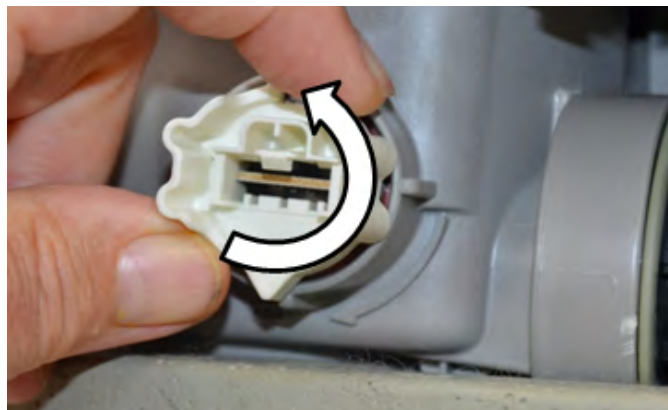

Figure 3
1. Rotate optical water indicator counter-clockwise 1/4 turn, see figure 3.